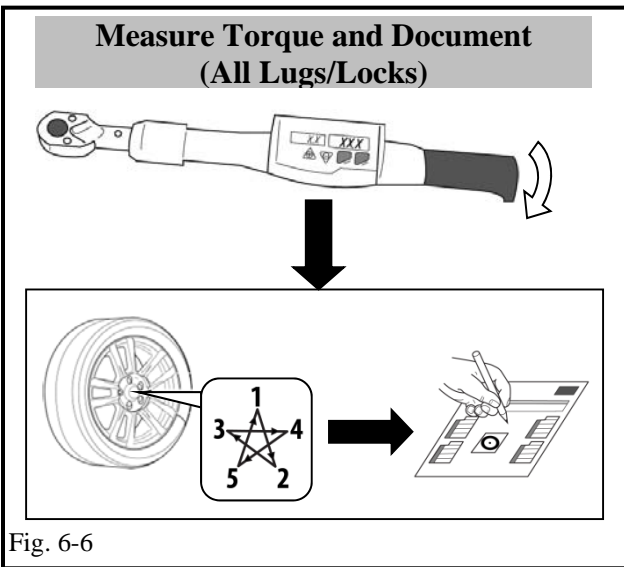

Fig. 6-6
- (k) With the vehicle still on the lift, use a digital torque wrench to measure the torque of each lug nut/lock and record it on the Torque Audit Sheet (Fig. 6-6).